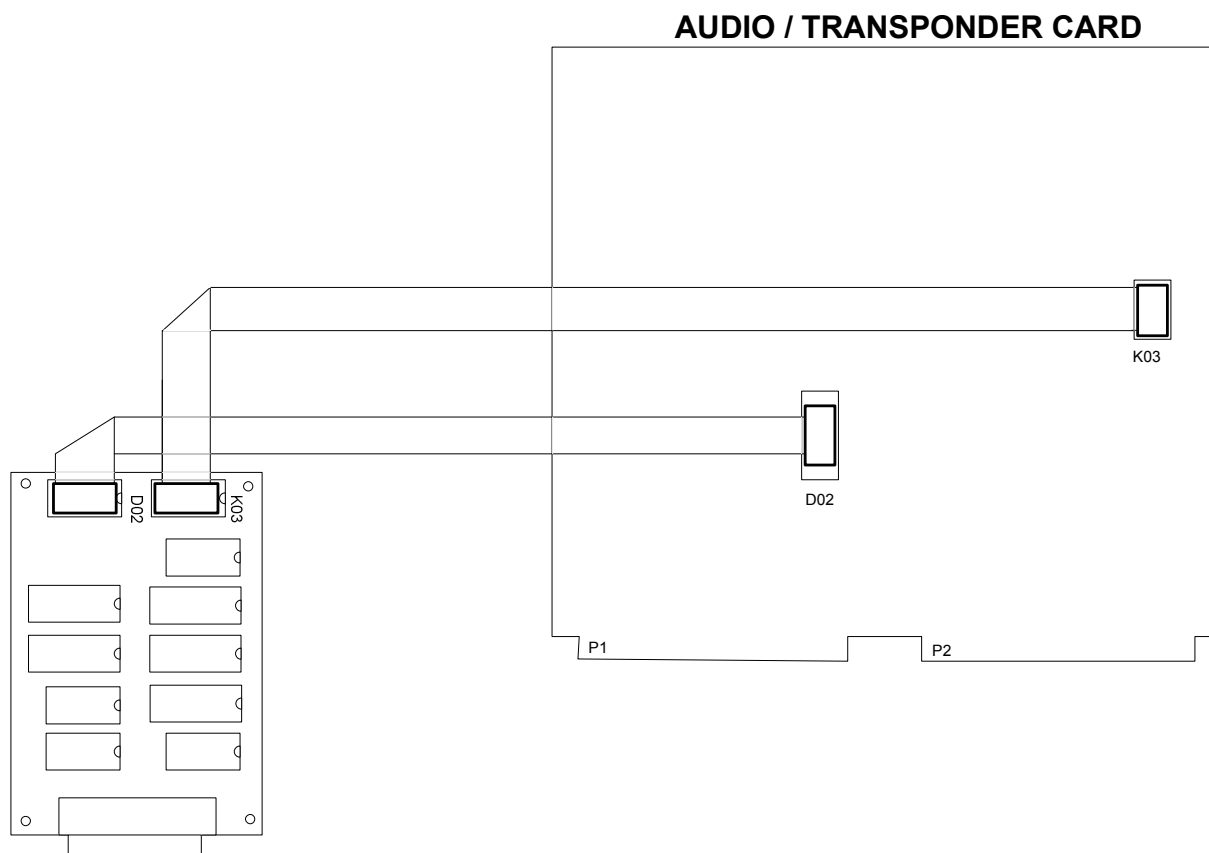
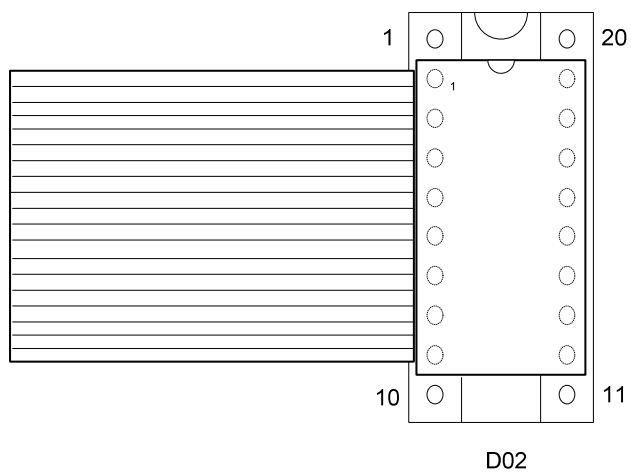

Figure 3.2 Cable Connections between Audio/ Transponder card and Flight Tracker Digital Interface
Figure 3.3 D02 Connection Placement
Step 7: Select the 16 pin ribbon cable identified as K03, and plug the free end into the 16 pin socket, which was soldered into position K03 (See Figure 3.2).
Step 8: Plug the free end of the other 16 pin ribbon cable into the 20 pin socket, which was soldered into position D02 (See Figure 3.2). Please note that the cable should be plugged such that pins 1, 10, 11, and 20 (i.e. the four corners) of the socket are left empty, as shown in Figure 3.3 below.
Step 10: Plug the two 16 pin ribbon cables into the FT2D interface taking care to connect them in the correct socket, and respecting the orientation. Refer to Figure 3.2 for the proper connections.